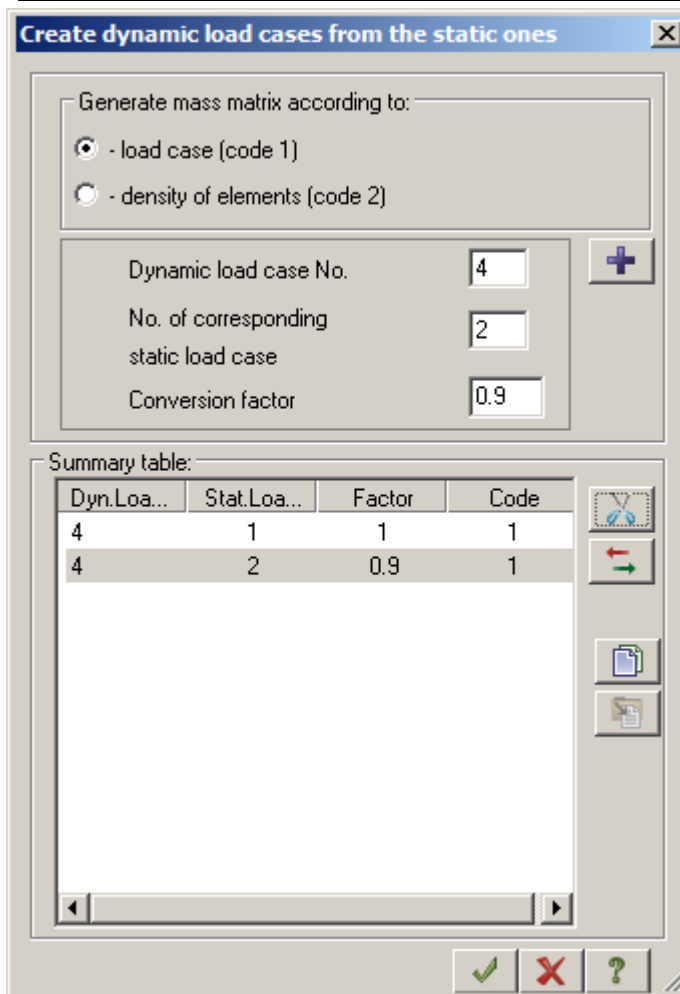

Figure 5.23 Create dynamic load cases from the static ones dialog box
- ⇒ In the **Create dynamic load cases from the static ones** dialog box (see Fig.5.23), under **Generate mass matrix according to**, click **Load case (code 1)** and to create the first line of the summary table, specify the following data: